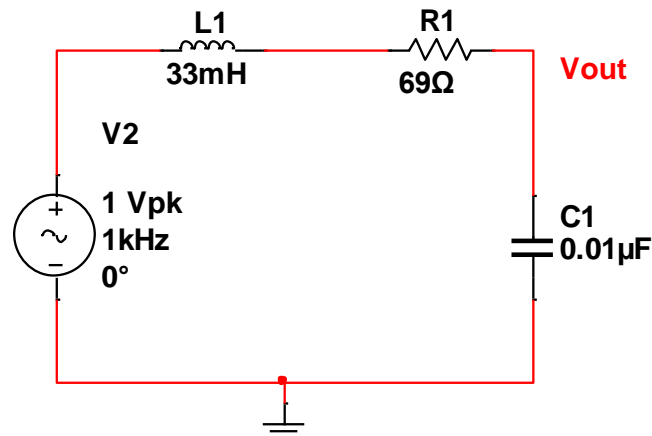

Figure 11: Second order system with AC source in Multisim
1. In this part, you will build the series RLC circuit in Multisim where the value of the resistor is the measured value of the potentiometer. The source should be an **AC\_VOLTAGE** and keep the default values. Your final schematic should look similar to Figure 11.